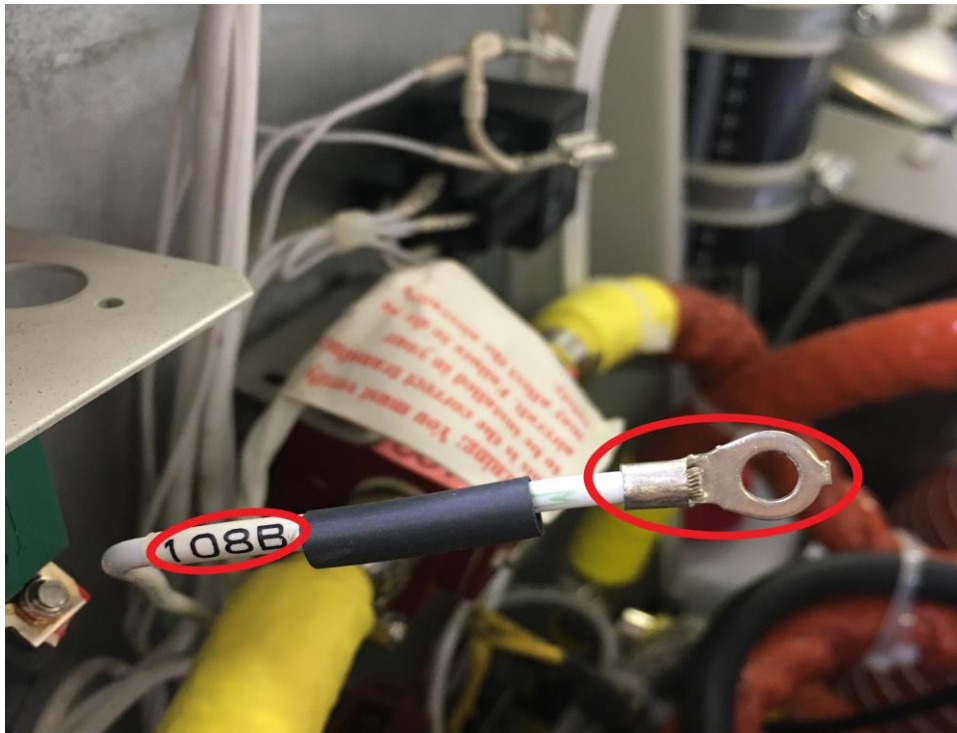

Fig. 14: Wire lug
12) Put the shrink insulation on the wire marked 108B, and attach the new lug with the eye (001) to the bare end and secure it with crimping pliers (See Fig. 14)